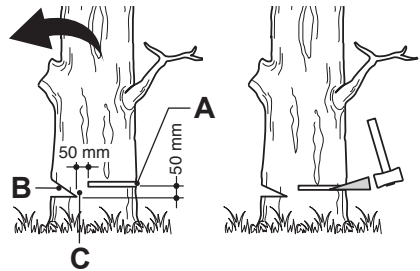

Fig. 27
Make the notch (Fig. 27, B) 1/3 the diameter of the tree, perpendicular to the direction of falls (Fig. 27). Make the lower horizontal notching cut first. This will help to avoid pinching either the saw chain or the guide bar when the second notch is being made.
1. Make the felling back cut (Fig. 27, A) at least 50 mm higher than the horizontal notching cut (Fig. 27). Keep the felling back cut parallel to the horizontal notching cut. Make the felling back cut so enough wood is left to act as a hinge. The hinge wood (Fig. 27, C) keeps the tree from twisting and falling in the wrong direction. Do not cut through the hinge.